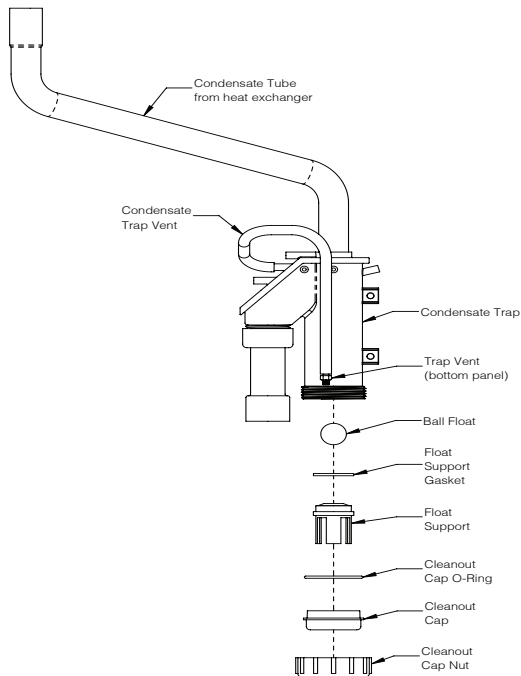

Figure 18-4: Condensate Trap Exploded Parts View
- A. Place bucket under condensate clean out cap on bottom of boiler (Figure 18-4) to catch water in trap as well as ball and support.
- C. Flush any debris found in trap with water - do not use other cleaning agents. Reassemble trap as shown in Figure 18-4.